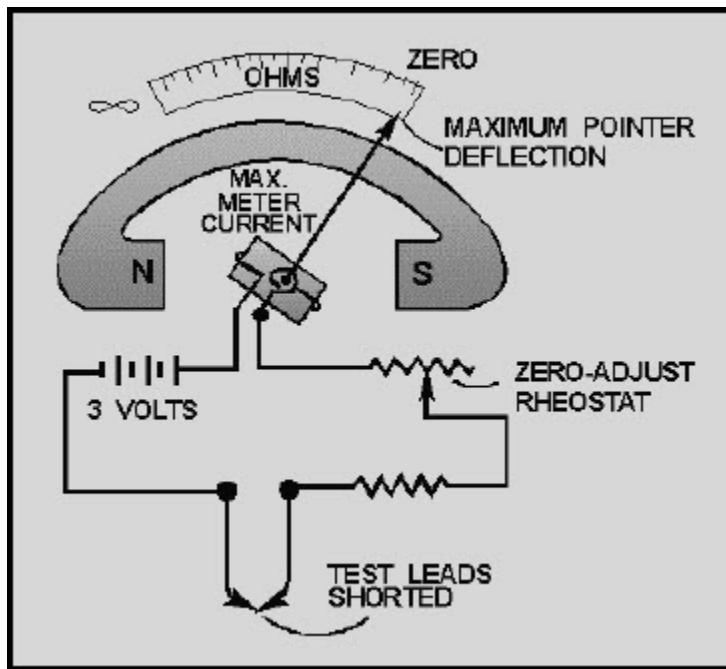

Figure 1-31 A simple ohmmeter circuit
3. A simple ohmmeter circuit is shown in figure 1-31.
The ohmmeter's pointer deflection is controlled by the amount of battery current passing through the moving coil. Before measuring the resistance of an unknown resistor or electrical circuit, the test leads of the ohmmeter are first shorted together, as shown in figure 1-31. With the leads shorted, the meter is calibrated for proper operation on the selected range. While the leads are shorted, meter current is maximum and the pointer deflects a maximum amount, somewhere near the zero position on the ohms scale.